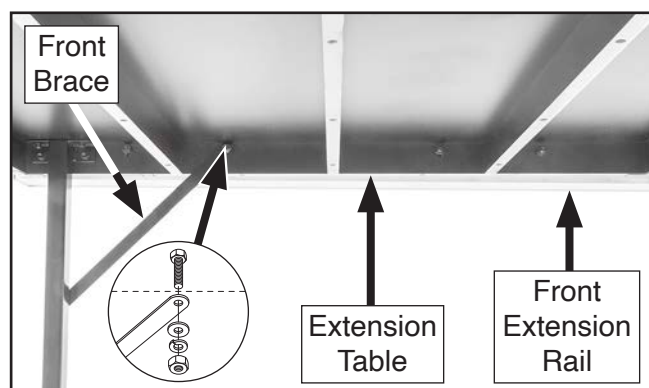

Figure 13. Extension table secured to front extension rail.
17. Align open end of front brace with remaining open hex bolt, then secure with (1) 8mm flat washer, 8mm lock washer, and M8-1.25 hex nut, as shown in **Figure 13**. Hand-tighten fasteners for now.